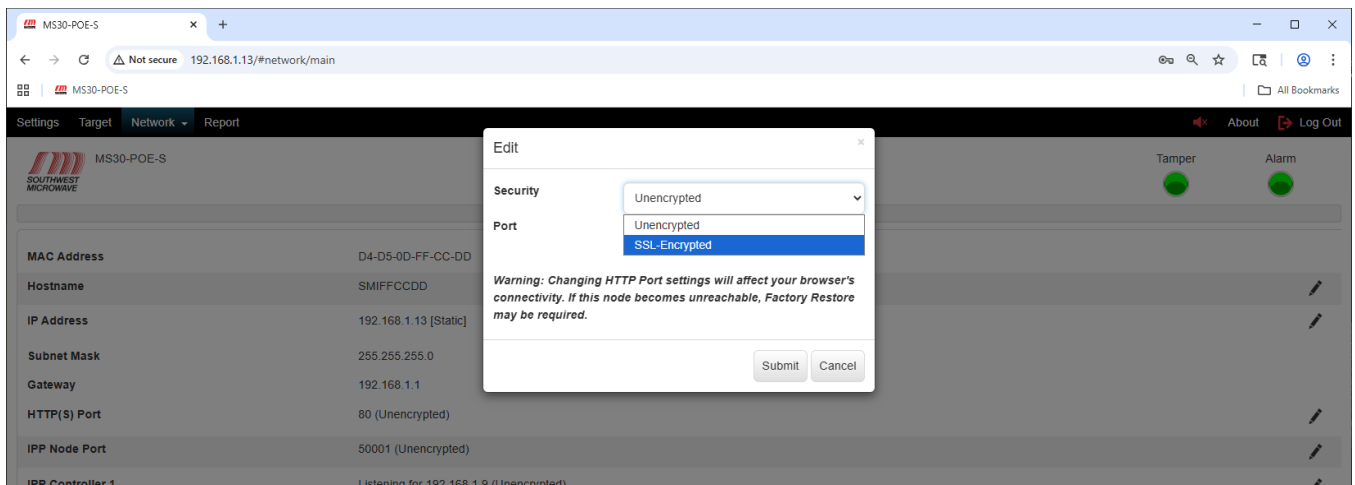
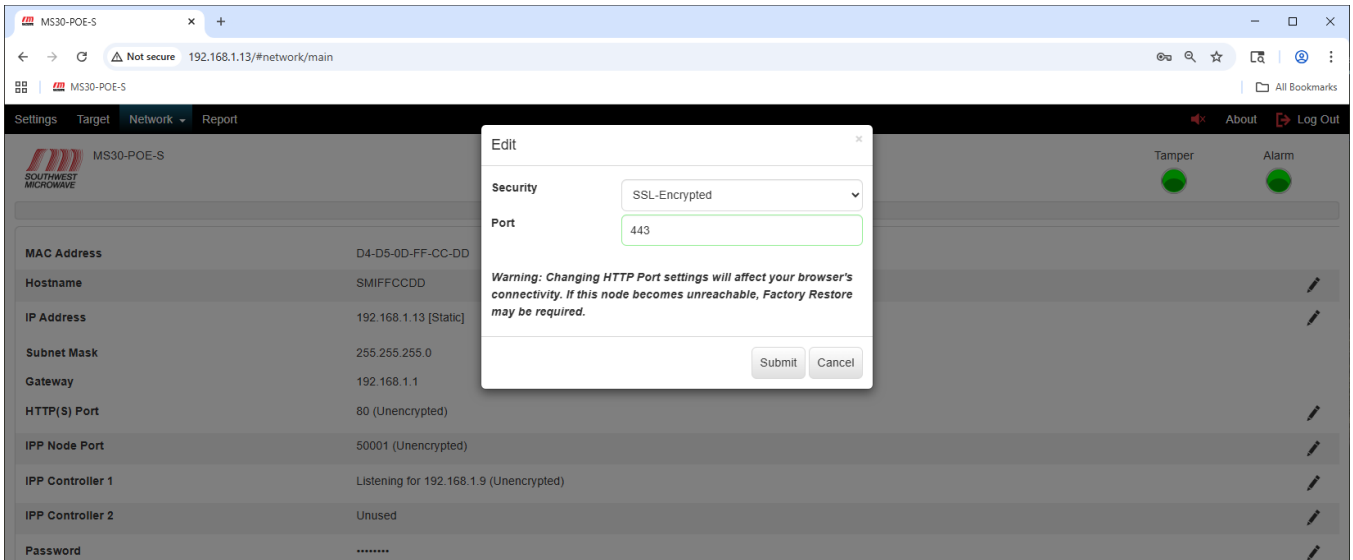

Figure 15.2 – SSL-Encrypted
Figure 15.3 – SSL-Encrypted Selected
To change the security of the “HTTP(S) Port” to Encrypted select the “Security” pull down menu to open the SSL-Encrypted setting as shown in Figure 15.2. Selecting the “SSL-Encrypted” line will change the port to 443 as shown in Figure 15.3.